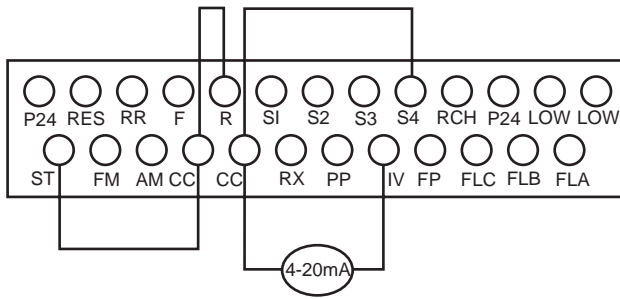

Fig. 53 — Variable Frequency Drive Terminal Block (Size 034-048 Units)
2. Install a jumper across S2-CC (see Fig. 53 and 54 for VFD terminal board connections).
1. Drive enable jumper is installed from terminals CC-ST (factory supplied) (see Fig. 53 and 54).